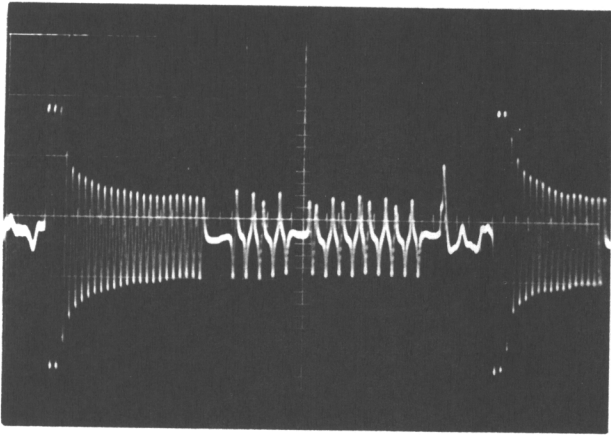

Figure 3-21. 1K08B (0.1 ms/div, 2 v/div)
3. Adjust the 1K potentiometer at 1K11 until the observed average amplitude of the first record address character is 3 volts peak-to-peak (Figure 3-21).